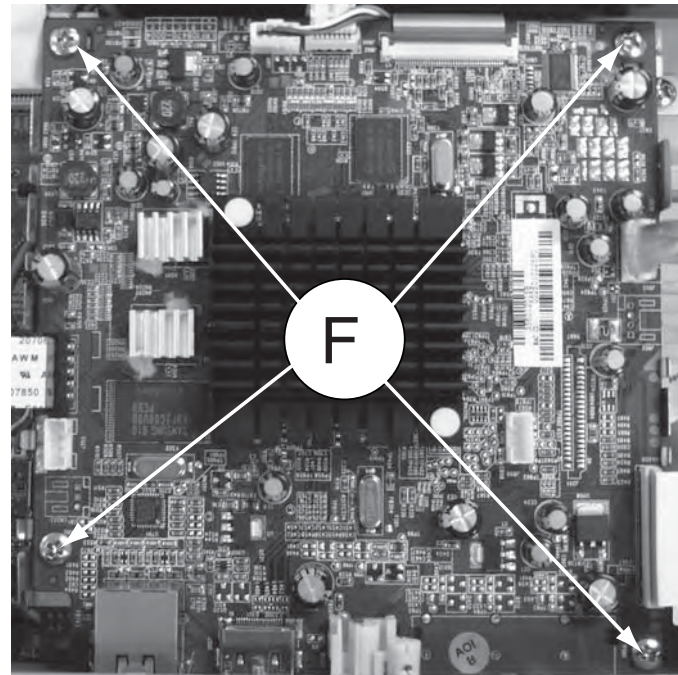

Figure 12
- 1) Loosen 4 screws "F" on the top of BD Board as shown in figure 12